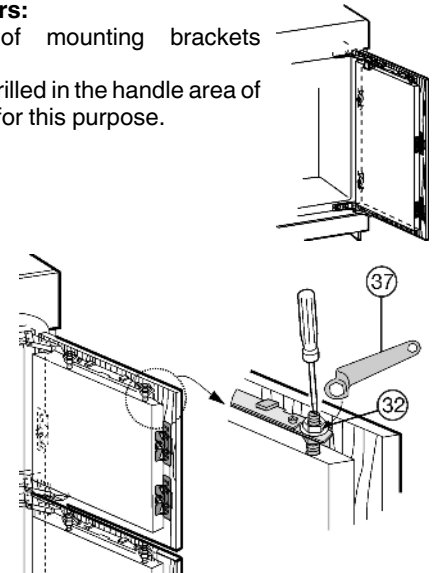

Fig. 25
- ▶ Tighten the locknuts *Fig. 25 (32)* using the ring spanner *Fig. 25 (37)*, while holding fast the adjusting bolts *Fig. 25 (33)* with a screwdriver.